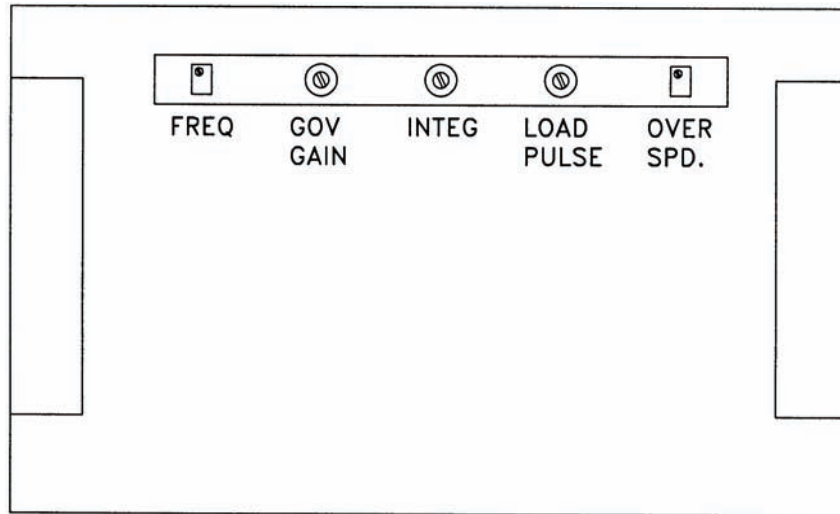

Figure 5-49. Governor Control Unit.
- c. Turn OVER SPD. potentiometer on governor control unit in control box assembly clockwise (CW) two turns (Figure 5-49).